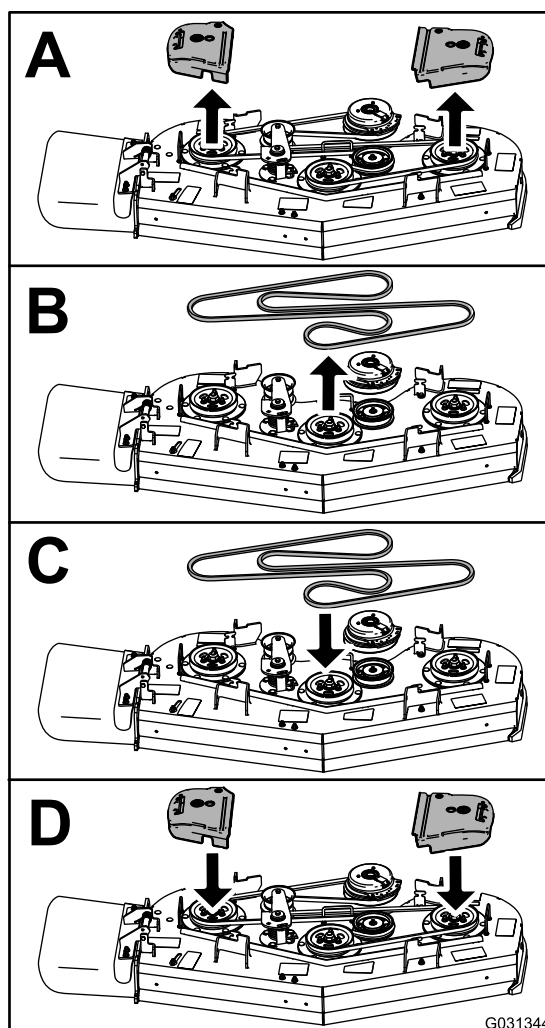

Figure 66
4. Replace the belt as shown in Figure 66.
7. Remove the deck belt from the clutch and clutch stop (Figure 66).